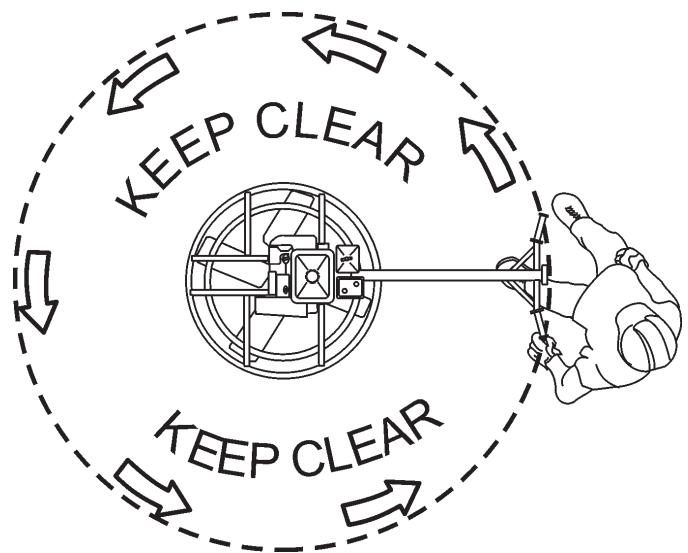

Figure 26. Testing the Centrifugal Safety Stop Switch
- CLEAR THE AREA AROUND THE TROWEL.** Move the safety stop switch lever back to the "ON" position, restart the engine and let idle. Stand behind the handle and spin the handle to the right, simulating a runaway situation. (See Figure 26). Centrifugal force should throw the safety switch outward to the "OFF" position thus shutting off the engine
4. Remember that if you let go of the trowel, just step away and let the trowel come to a complete stop before trying to recover the trowel. See (Figure 26) to see the area around the trowel to keep clear of.